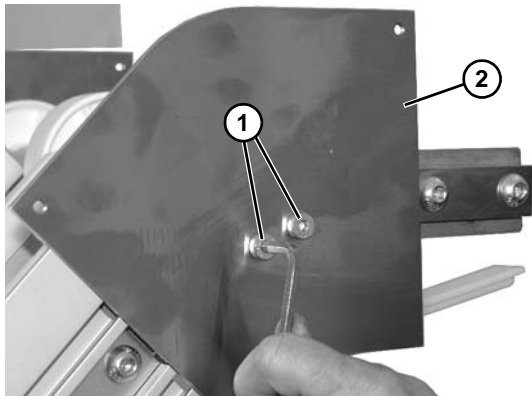

Figure 109
6. Remove two socket head screws (Figure 109, item 1) and remove cover plate (Figure 109, item 1) from knuckle assembly.